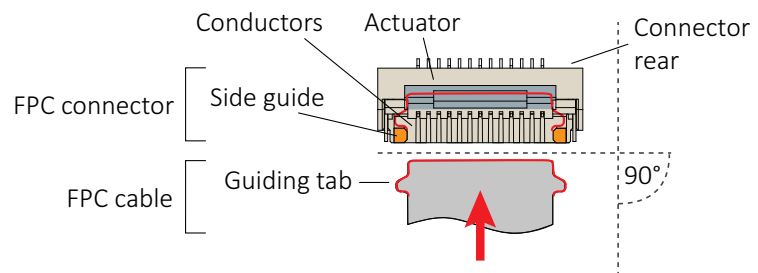
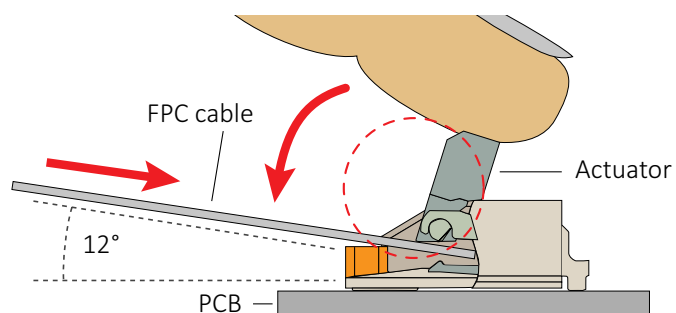

Figure 97: FPC cable and FPC connector
Figure 98: Engaging the FPC cable in the FPC connector
3. **Ensuring proper cable direction between host and camera**, take the FPC cable with conductors facing the FPC connector conductors (see Figure 97).
At a horizontal angle of 90 degrees to the connector's rear (see Figure 97) and at a vertical angle of 12 degrees to the PCB (see Figure 98), slowly insert the FPC cable into the actuator...
5. ...until cable guiding tabs are caught between connector rear and side guides (see Figure 97). Pull the cable slightly to ensure guiding tabs are properly engaged.
6. Holding the FPC cable in position, flap down the actuator to closed position (see Figure 98).